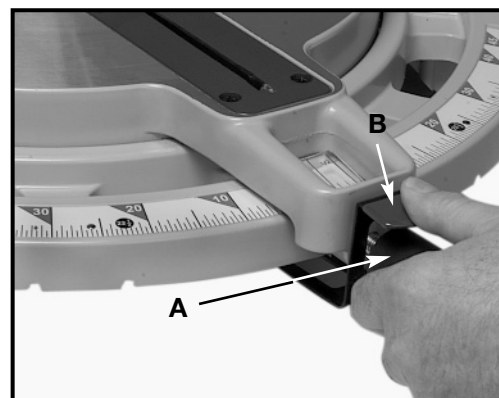

Fig. 12
1. The compound miter saw will cut any angle from a straight 0° cut to 47° right and left. Turn locking knob (A) Fig. 12 counterclockwise, depress lock lever (B), and rotate table to desired position.